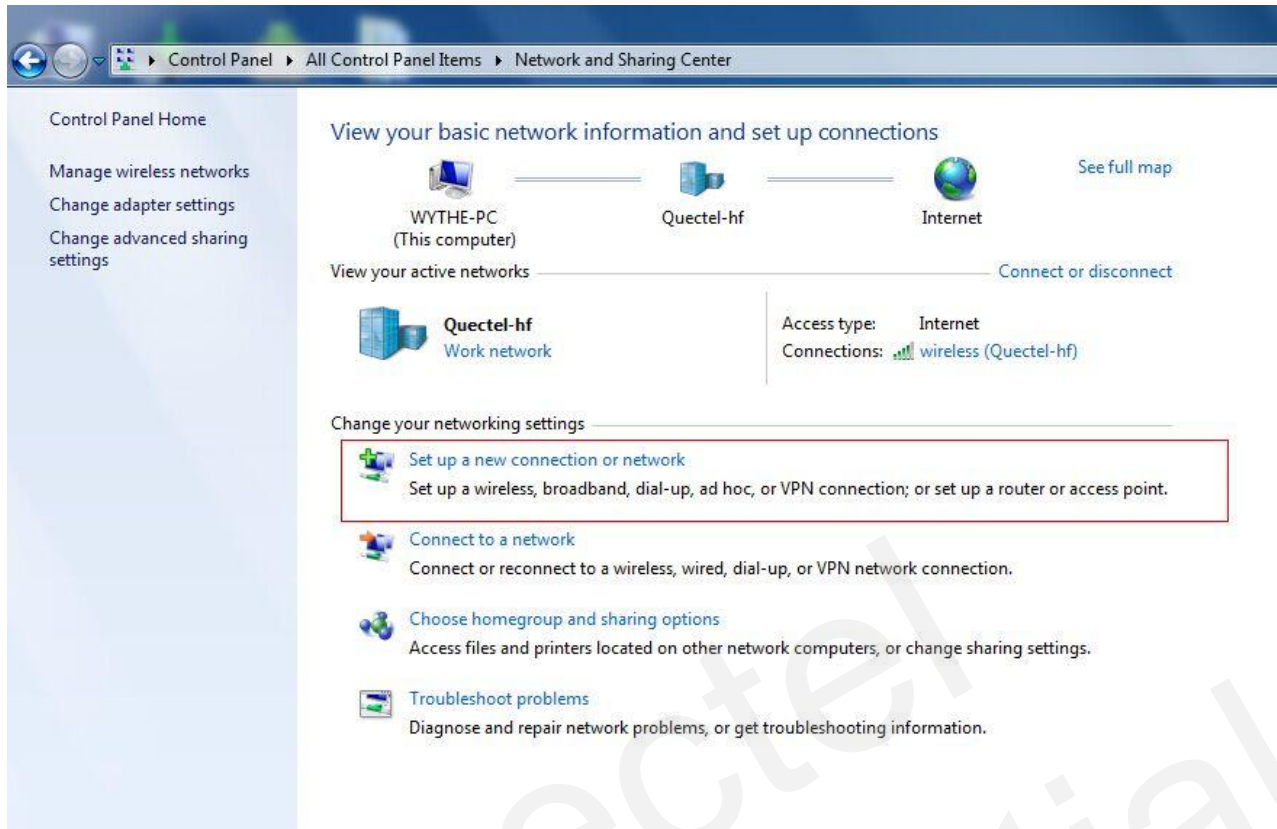

Figure 6: Set up a New Connection
1. Open “**Control Panel**” and double click “**Network and Sharing Center**”, then click “**Set up a new connection or network**”. Refer to Figure 6.